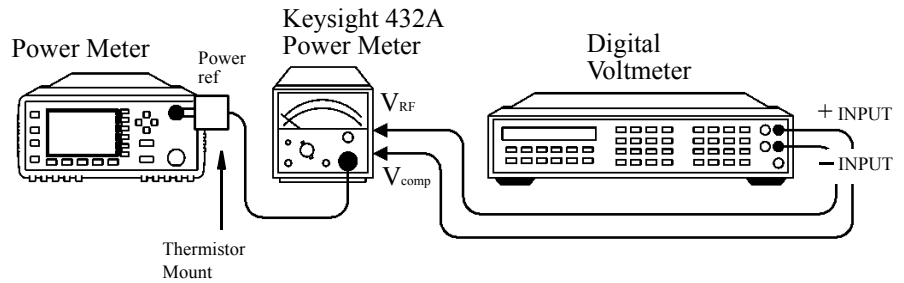

Figure 3-3: Adjustment Setup
2. Round off the DVM reading to two decimal places and record this value as the internal bridge resistance (R) of the test power meter (approximately 200 Ω).
3. Connect the equipment as shown in **Figure 3-3**. The leads should be isolated from ground. Ensure that the power reference oscillator is off. Ensure that both the power meter under test and the Keysight 432A have been powered on for at least 30 minutes before proceeding to the next step.